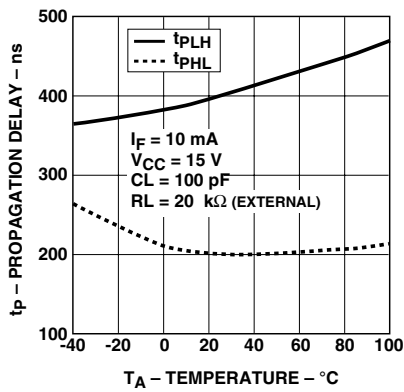

Figure 8. Propagation delay with external 20 k Ω R_L vs. temperature.
- Due to tolerance of the internal resistor, and since propagation delay is dependent on the load resistor value, performance can be improved by using an external $20 \text{ k}\Omega$ 1% load resistor. For more information on how propagation delay varies with load resistance, see Figure 8.